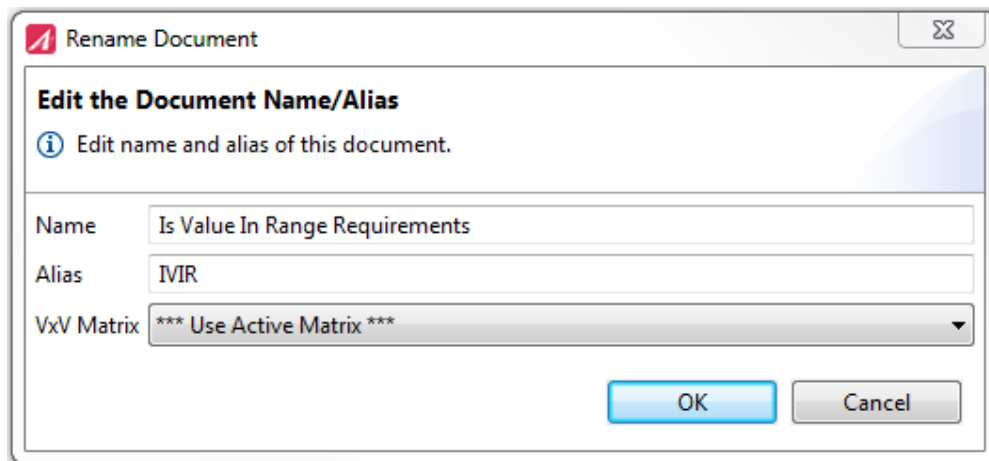

Figure 5.32: Changing the alias of the new requirement document
- Change the alias to “IVIR” and click “OK” (see figure 5.32).